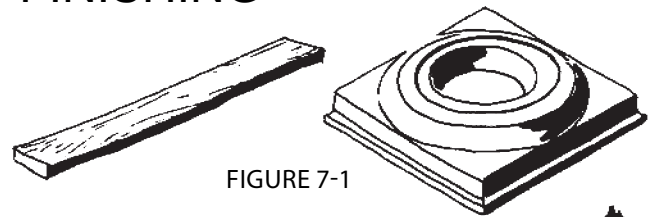
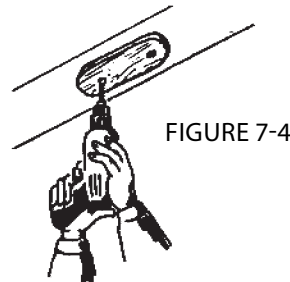

FIGURE 7-1
FIGURE 7-4
1. Score a line from inside the cap, or the center hole of the plug, on a small piece of scrap lumber—a 1x4 with smaller caps or a 1x6 with larger caps (Fig. 7-1 and 7-2). Then roughly cut out a block (Fig. 7-3) and attach to the soffit where you want the capital secured (Fig. 7-4).